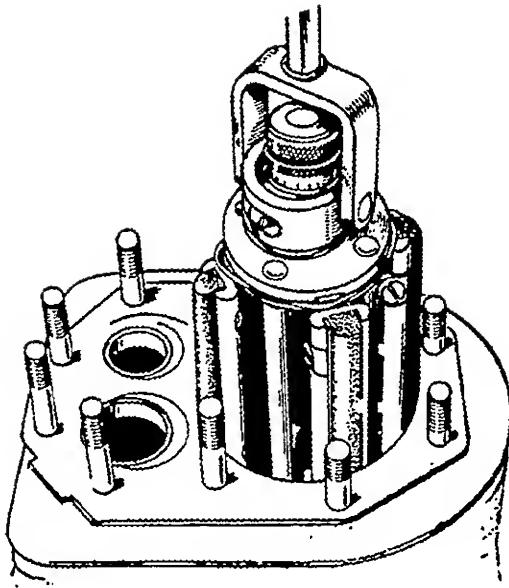

FIGURE 75. HONING CYLINDER
1. A hone can be used to re bore a cylinder, Figure 75. Remove stock to 0.002 inch (0.051 mm) less than finished bore with coarse hone (100 grit), then complete honing with finish hones (300 grit).